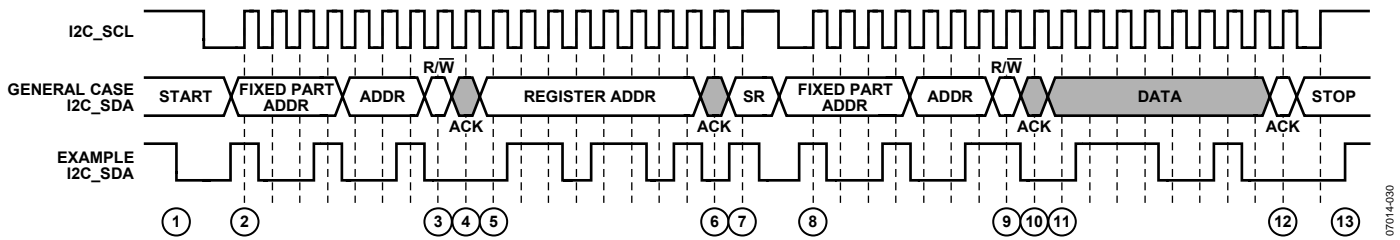

Figure 30. I2C Read Diagram
To read data from the AD8197A register set, an I2C master (such as a microcontroller) needs to send the appropriate control signals to the AD8197A slave device. The signals are controlled by the I2C master, unless otherwise specified. For a diagram of the procedure, see Figure 30. The steps for a read procedure are as follows:
9. Send the read indicator bit (1).
- 13a. Send a stop condition (while holding the I2C\_SCL line high, pull the SDA line high) and release control of the bus to end the transaction (shown in Figure 30).